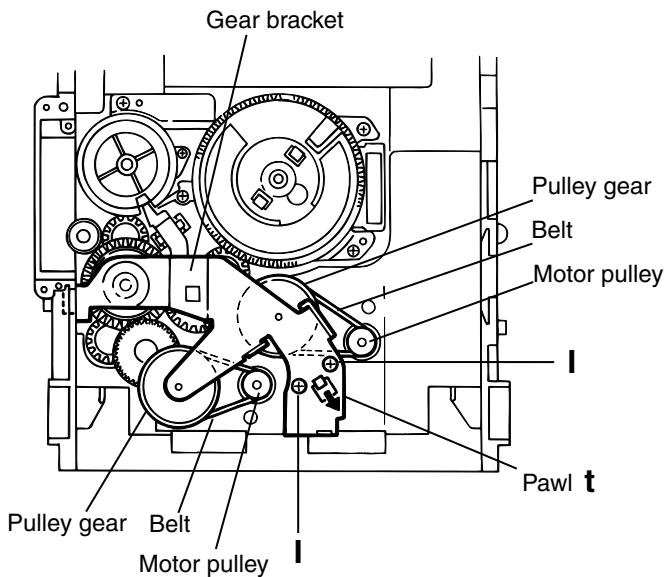

Fig.18
4. While turning the cam gear "q", align the Paul "s" position of the select lever to the notch position(Fig.18) on the cam gear "q".
5. Remove the four screws H retaining the cam unit(cam gear "q" and cams R1/R2 assembly)(See Fig.18).
■ Removing the actuator motor and belt (See Fig.18~21)
(See Fig.18).
actuator motor pulleys and pulley gears(See Fig. 18).